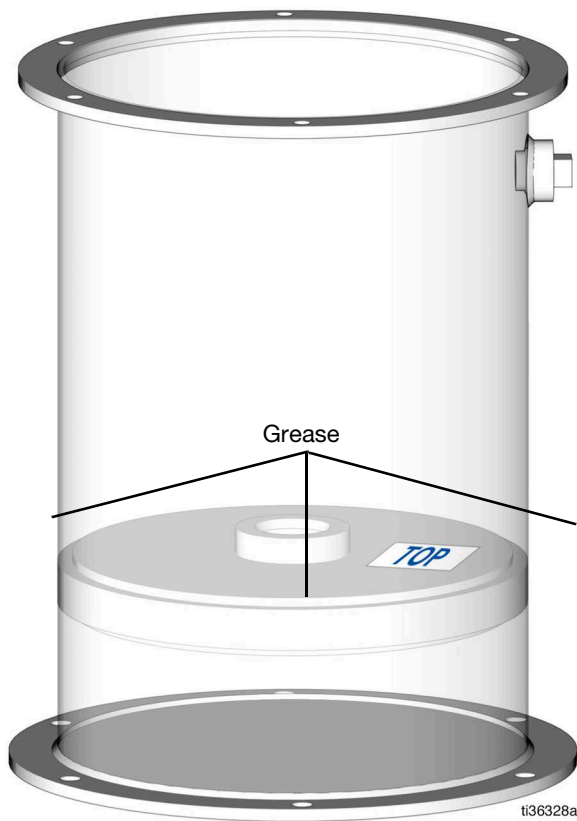

FIG. 12
5. In a new installation, the center o-ring of the follower plate and the tank walls should be greased to allow for easier follower plate movement (FIG. 12).
6. Place the follower plate inside of the tank with the follower plate top (marked "top") facing upward (FIG. 12).